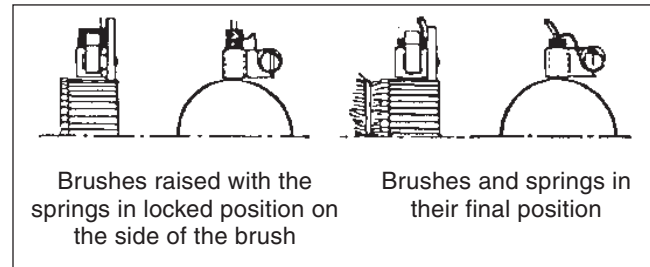

Figure 7.16—Brush Installation
1. Install new brushes, making sure they are free in the holder and the lead wires are positioned as when disconnected. Raise all brushes to the locked position (figure 7.16).
6. Set the brushes to the final position as shown in figure 7.16.